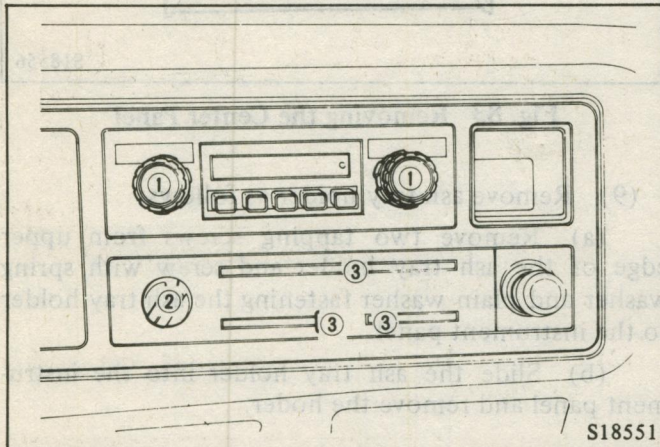

Fig. 78 Removing the Cluster Panel (1)
- (1) Remove knobs (① in Fig. 78) and nuts from radio.
- (2) Remove heater fan switch knob (② in Fig. 78) and nut.
- (3) Remove the heater control lever knobs. (③ in Fig. 78)